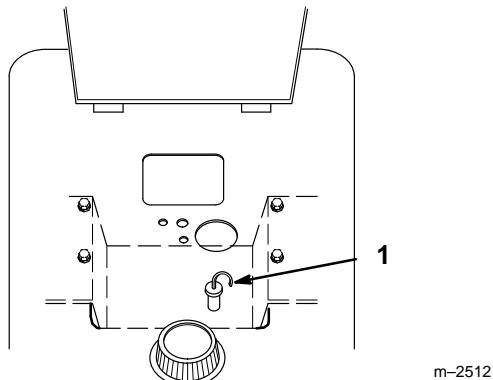

Figure 35
3. Clean around the transaxle dipstick (Fig. 35) so dirt cannot fall into the filler hole and damage the transaxle.
4. Pull out the dipstick and wipe the metal end clean (Fig. 35).
5. Slide the dipstick fully into the filler tube (Fig. 21). Pull the dipstick out and look at the metal end. When transaxle is cold oil should be at the “Full” line on the dipstick (Fig. 35).